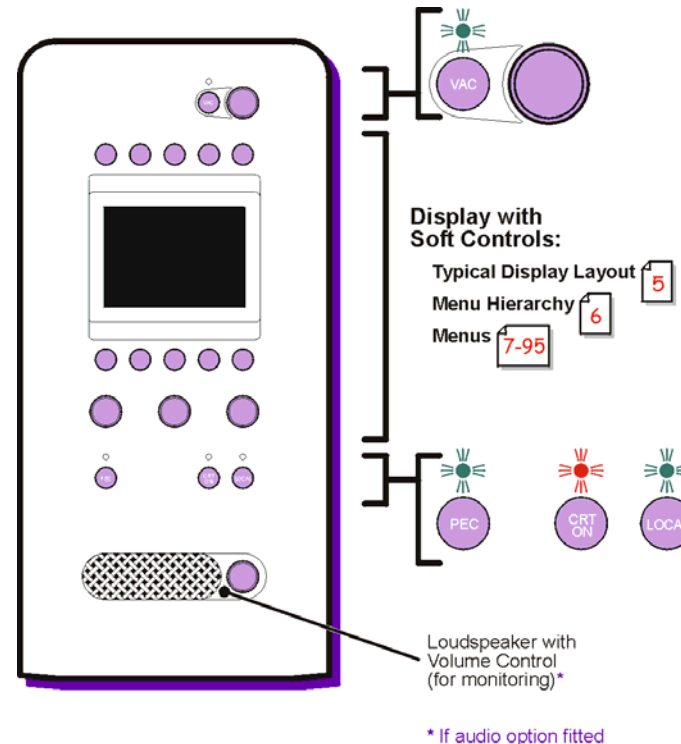

Figure 3 Upper Control Panel
The Upper Control Panel (shown in Figure 3) located to the right-hand side of the Film Transport Door provides access to many local control facilities primarily through the use of a hierarchical menu control system. The menus are displayed on an Electroluminescent (EL) display and are navigated/selected with the adjacent *soft* controls. The panel also includes a number of dedicated controls. Behind this control panel are located the CDROM and floppy disk drives for System Software and Firmware respectively.